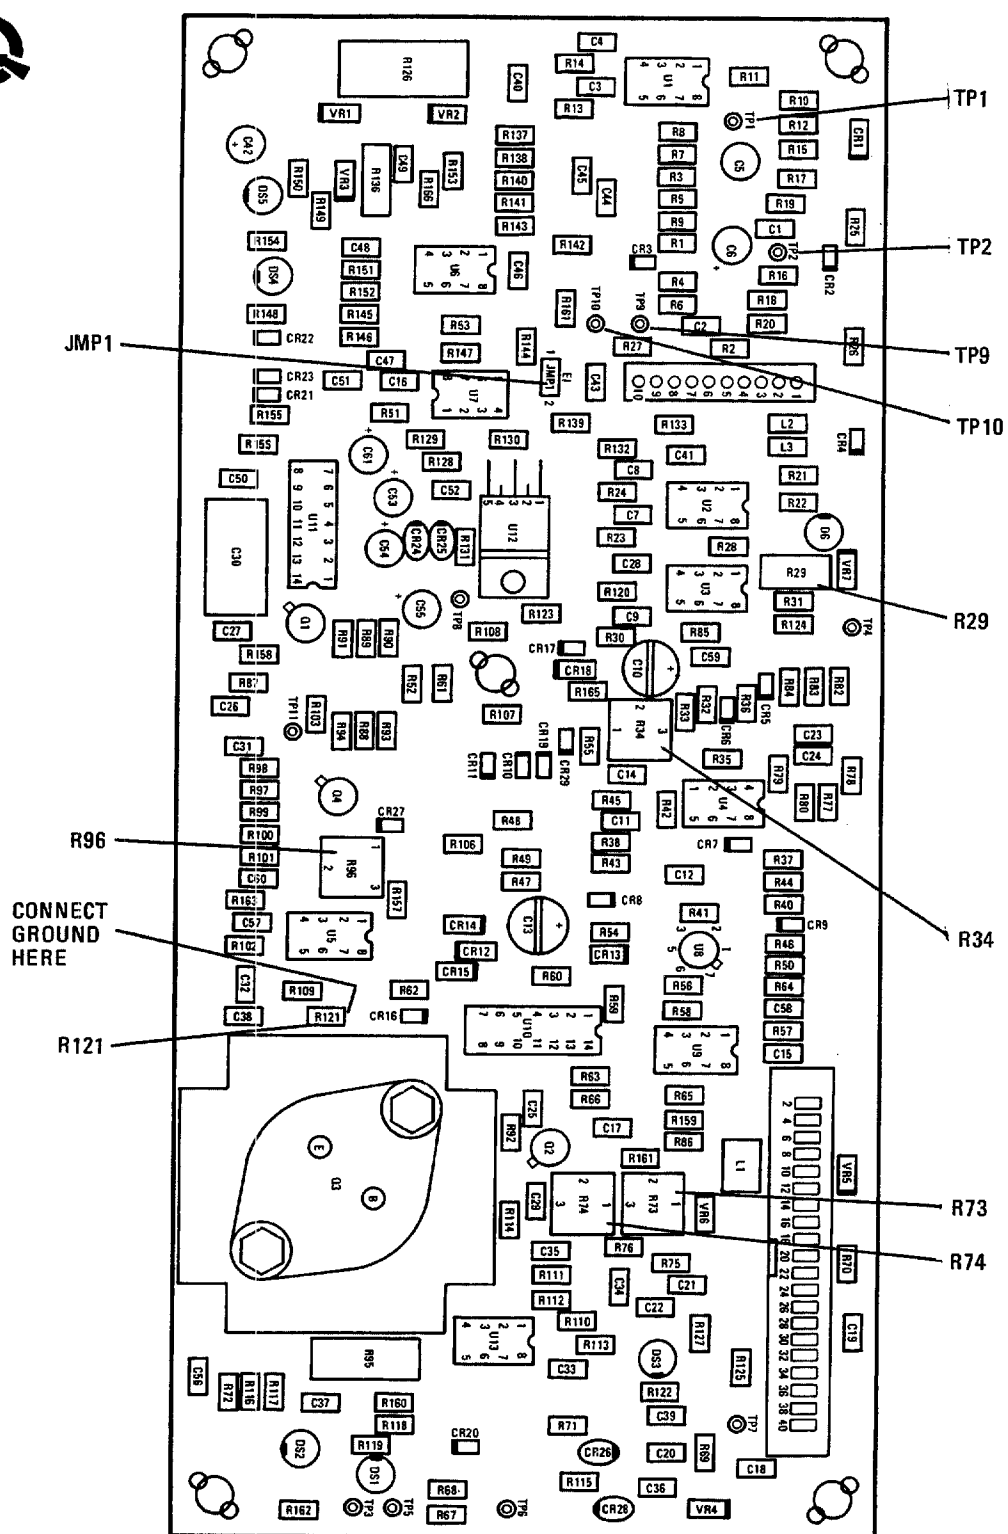

Figure 6-3. Power Control PWB Assy
- (c) Connect a digital multimeter between test point TP2 and ground on the Power Control PWB Assy (see figure 6-3).
- (c) Connect a digital multimeter between test point TP1 and ground on the Power Control PWB Assy (see figure 6-3). Rotate R34 on the Power Control PWB Assy fully counterclockwise. Adjust R74 fully clockwise.
e. Power Control PWB Assy. A5 (Fig. 6-3)
(1) R29, Loop Gain Control
(c) Key the system and adjust R34 (see figure 6-3) for a reading of 112 ± 2 Vac on the HP-410C.
- (c) Connect a ground to the J1 side of R121 on the Power Control PWB Assy (see figure 6-3). This will place the Power Control PWB Assy into the coupler tune mode.
(4) R74, Power Control Adjustment.
- (1) Remove JMP1 on the Power Control PWB Assy (see figure 6-3).